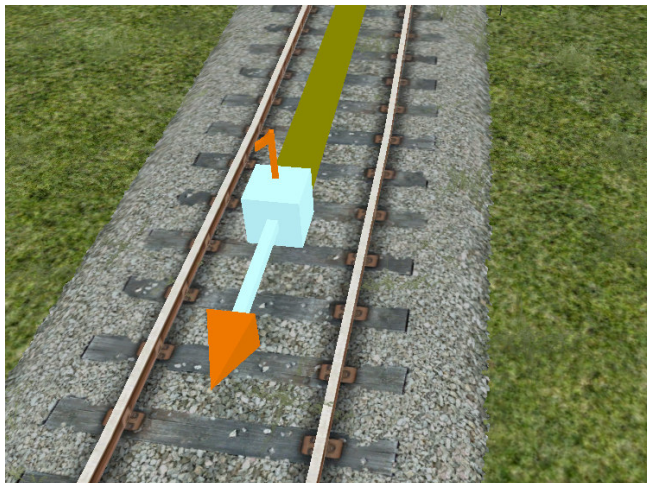
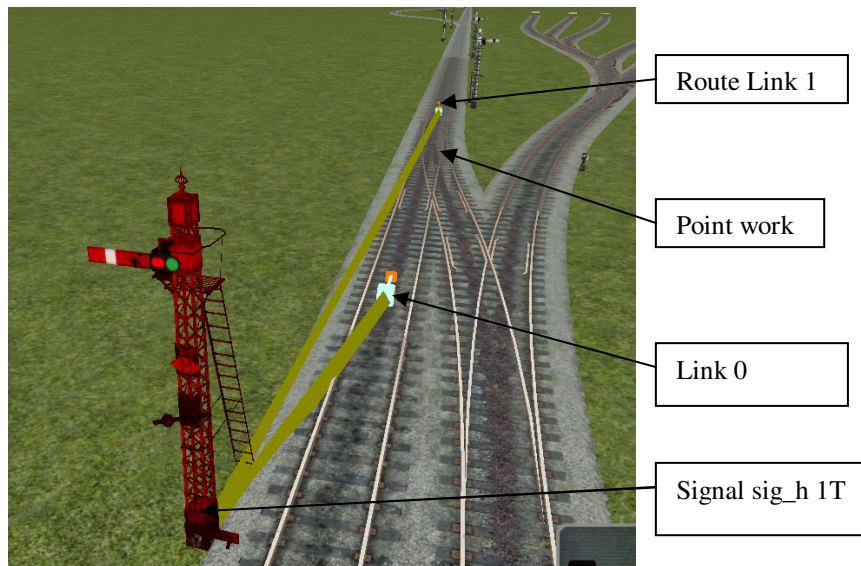

Figure 2 A Route, Yard Entry or Reverse Junction Link No.1
Figure 3 Typical set-up for signal "sig_h 1T"
A signal may have one, or more, of these types of link (See Fig.2), see Appendix A. In most cases, it is used by the signal to determine if a relevant route is set. The signal looks at the lay of the points between the Link 0 and each of its Route Links. It would appear to look for conflicting set routes crossing the path. It does not however detect reverse routes, if the setting of the points is the same. The signal also looks to the next signal in advance via the set Route Link for its authority to display a clear indication (counter reset), except where the link is of the “Yard Entry” type (see below).
Only the first six Route Links visually display their number in the 3D model. Link numbers seven onwards do not display their numbers above them. See Fig.2.
Signal “sig_h 1T” is similar to the previous one but can be used where there is one route in advance of the signal that has some point work which requires route detection, normally one or more trailing points¹ (e.g a passing loop starting signal). This signal is installed similarly to the previous one, but once the first link (Link 0) has been positioned you will be presented with a further link (Route Link 1) which looks similar, but has an orange figure one (1) above it (see Fig.2). Position this link on the far side of the point work that requires to be monitored by the signal. See Fig.3.